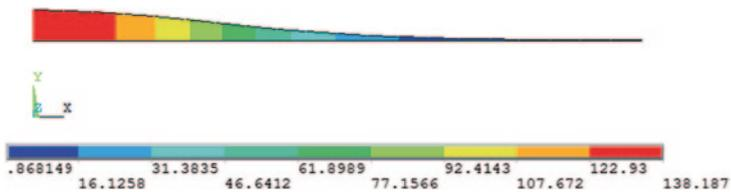

Fig. 5.34 Path plot on geometry for the variation of flux
- Fig. 5.34 shows the path plot of thermal flux as it appears in the *Graphics Window*.